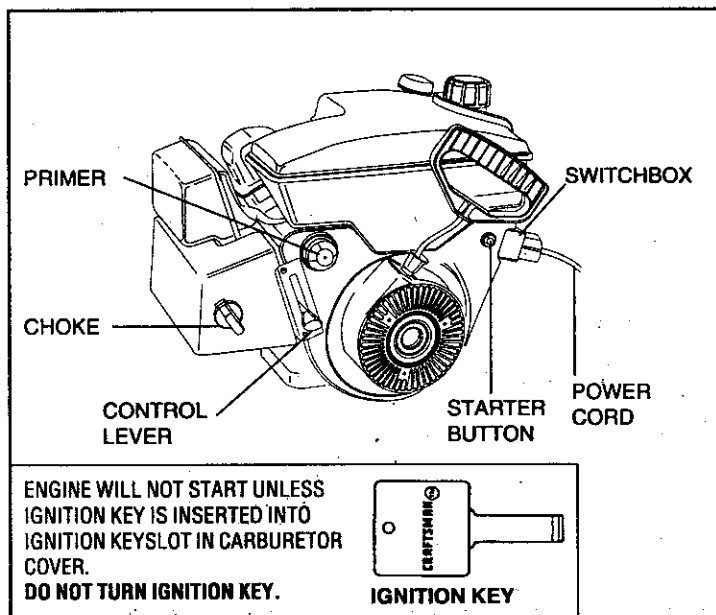

Figure 3
② **ELECTRIC STARTER - 120 VOLT A.C.** (see Figure 3):
ELECTRIC STARTER (Continued - see Figure 3):
- A. Move engine CONTROL LEVER (see Figure 3) to "FAST".
- B. Move engine CHOKE (see Figure 3) to "OFF".
- C. Connect POWER CORD to SWITCHBOX (see Figure 3).
- E. Push STARTER BUTTON (see Figure 3) to crank engine.
① BEFORE STOPPING (see Figure 3):
② STOP ENGINE (see Figure 3):
③ AFTER ENGINE IS STOPPED (see Figure 3):